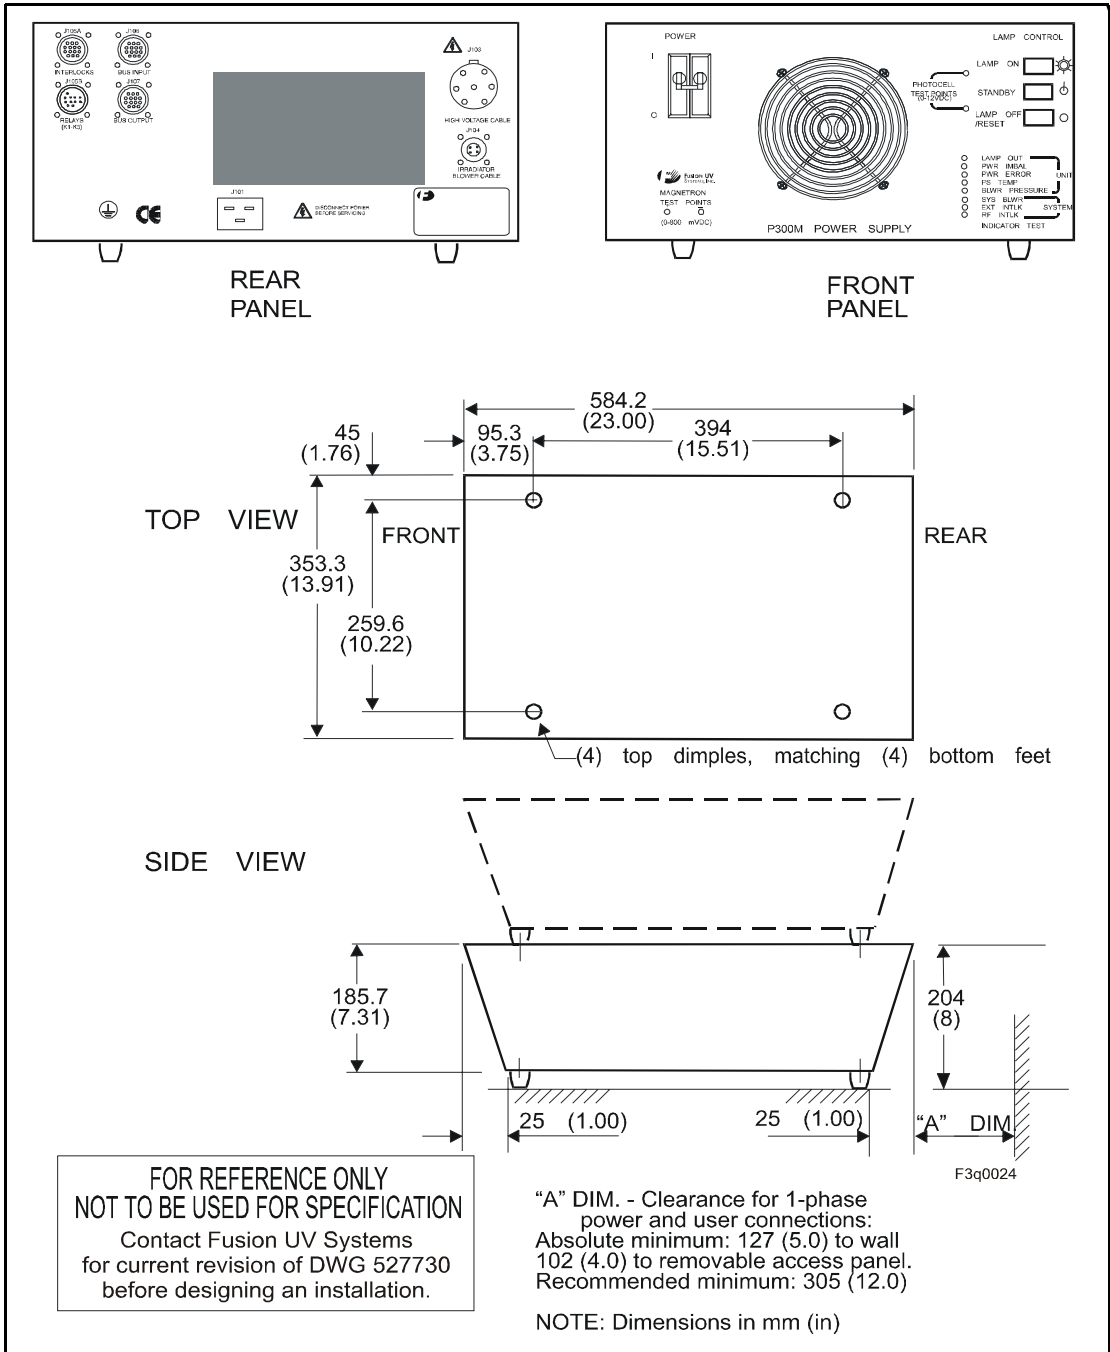

Figure 50. P300M/P300MQ Power Supply Dimensions and Clearances
- Figure 50, P300M/P300MQ power supply dimensions and clearances